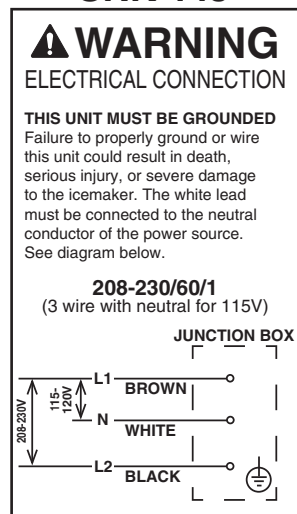

Fig. 17a
- Remote condensing unit electrical connection must be made in accordance with the instructions on the "WARNING" tag provided with the pig tail leads in the remote condensing unit's power supply junction box. See Figs. 17a and 17b.
- 3) Connect the power supply from the disconnect or electrical panel to the leads in the remote condensing unit's power supply junction box. This differs from KM style installations. Connect a ground wire to the ground screw. See Figs. 17a and 17b.